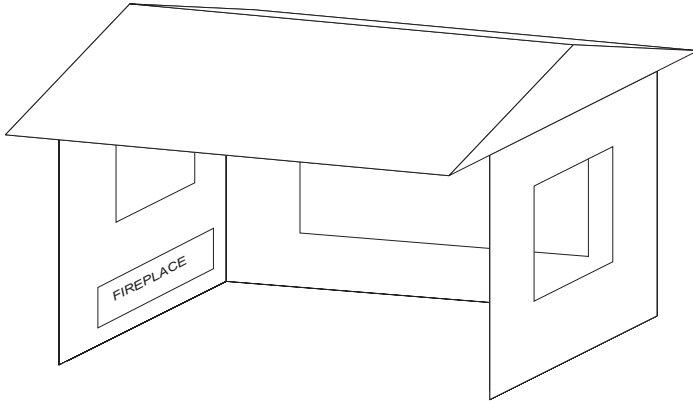

Figure 3
- Within a partial enclosure that includes an overhead cover and three side walls, as long as 30 percent or more of the horizontal periphery (perimeter of walls and open side) of the enclosure is permanently open. **See Figure 3.**